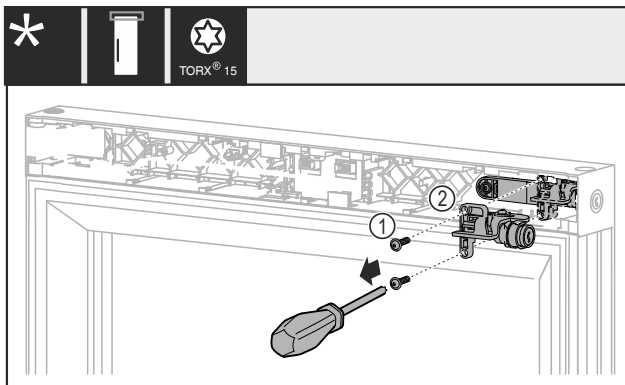

Fig. 10
- Remove the screws Fig. 10 (1).
- Remove the mechanical lock Fig. 10 (2).